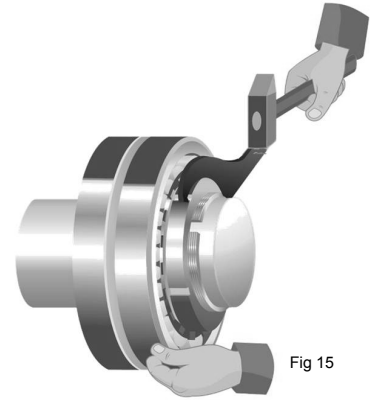

Fig 15
**7A. Spanner & Wrench Method:** For smaller bearings, generally below 6-inch shaft diameter, a spanner wrench and hammer are normal and likely enough to properly mount the bearing (Fig. 15). For larger sizes, consider using a Hydraulic Nut or Locknut with Mounting Screws. Measure clearance frequently during the tightening process. Tighten the bearing to the recommended final internal clearance. (*As a guide, the Lock Nut will rotate approximately 1/3 of a turn further from the hand tight position. Recognize the "hand tightness feel" varies by installer. See Pg. 7 (Tables 4 & 5) concerning expected nut rotation during tightening.*) Once the final recommended clearance is achieved, remove the Lock Nut and install the Lock Washer between the bearing and re-tighten the Lock Nut.